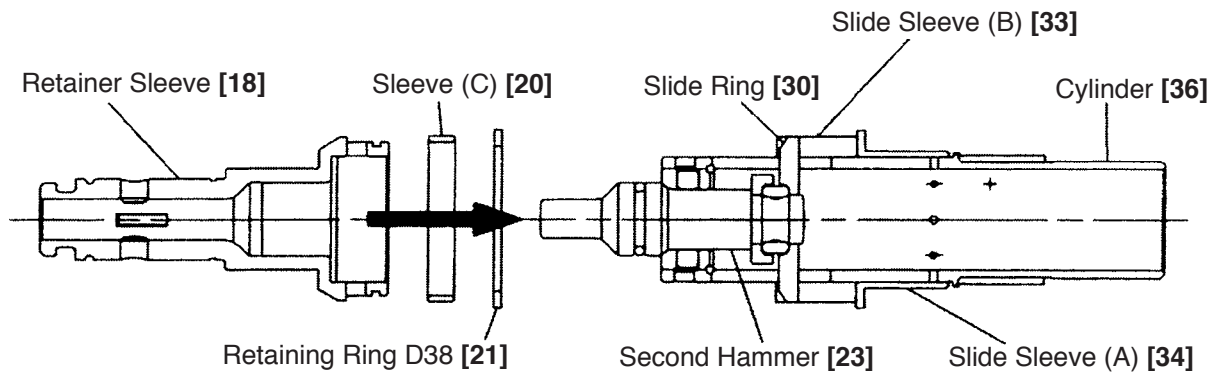

Fig. 26
Mount the Second Hammer [23], Damper Washer [24], Damper [25], Damper Holder [26], Damper Holder (B) [28] and Damper (C) [29] to the inside of the Cylinder [36]. Mount the Damper Washer [24] so that the R surface of the inside diameter is aligned with the R surface of the Second Hammer [23]. Mount the Damper Holder [26] so that its flat surface without difference is faced to the Damper [25]. Fit the Retaining Ring D38 [21] and Sleeve (C) [20] on the outer circumference of the Cylinder [36] then insert the Cylinder [36] into the Retainer Sleeve [18]. (Fig. 26)